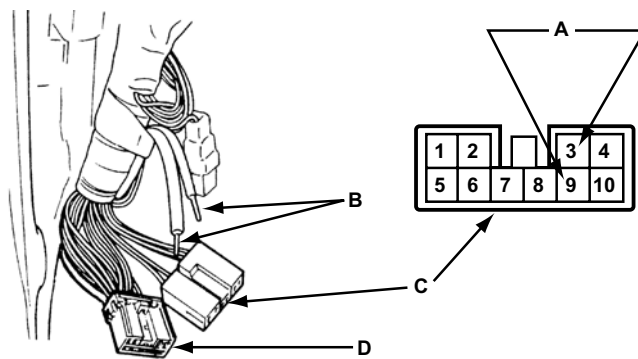

Figure 15-56 SVX airbag
- 1992–1997 SVX (Figure 15-56 on page 224)
1. With the key on and the engine off, install either diagnostic terminal into pin 9 of the airbag (SRS) diagnostic connector. The connector is located in the left kick panel area (Figure 15-56).
1. With the key on and the engine off, install either diagnostic terminal into pin 9 of the airbag (SRS) diagnostic connector (Figure 15-56).
1. With the key on and the engine off, install either diagnostic terminal into pin 1 of the airbag (SRS) diagnostic connector (Figure 15-56).
1. With the key on and the engine off, install either diagnostic terminal into pin 2 of the airbag (SRS) diagnostic connector (Figure 15-56).